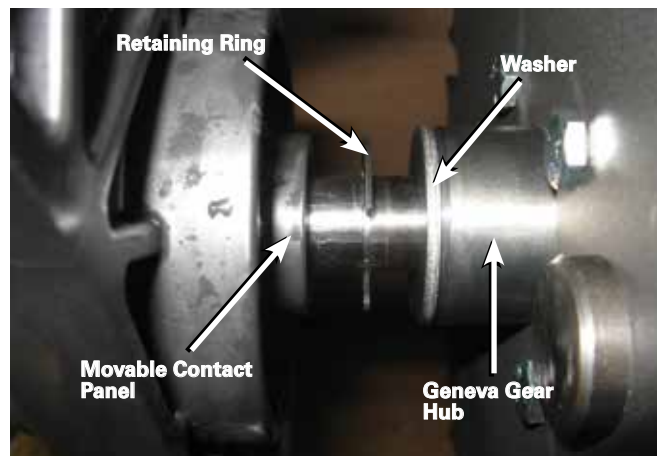

Figure 135. Shaft positioning.
- Push the main shaft from the threaded end partially through the steel front plate of the tap-changer so that the retaining ring on the main shaft is centered between the movable contact panel and the washer/ Geneva gear hub. Refer to Figure 135.